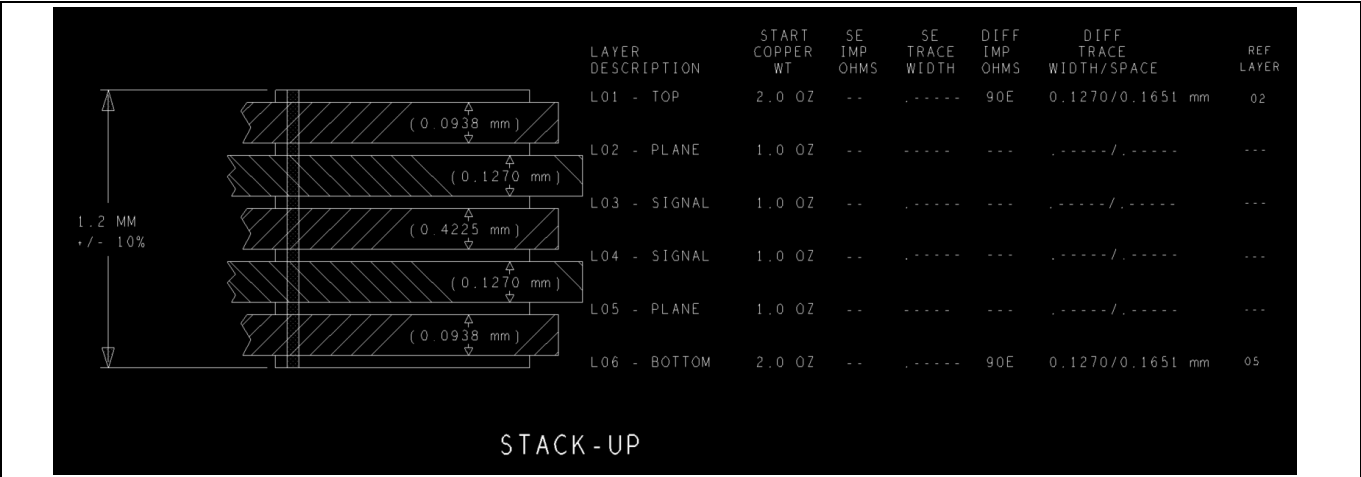

Figure 16 6-layer PCB stack up
Figure 16 shows the recommended stack up for a 1.2-mm thick PCB. The values of width (W) and spacing (S) are based on CY7110 EZ-PD PMG1-S0 Prototyping Kit.